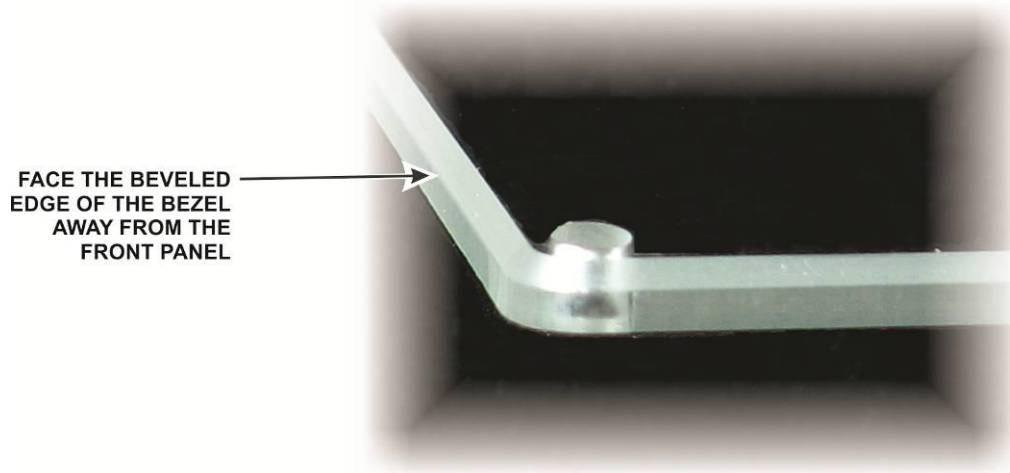

Figure 32. Bezel Beveled Edge.
- Look closely at the edge of the bezel and note that the edge is slightly beveled on one side (see Figure 32) . This side will face away from the front panel.